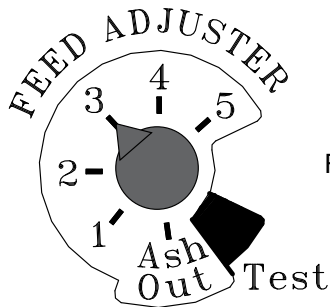
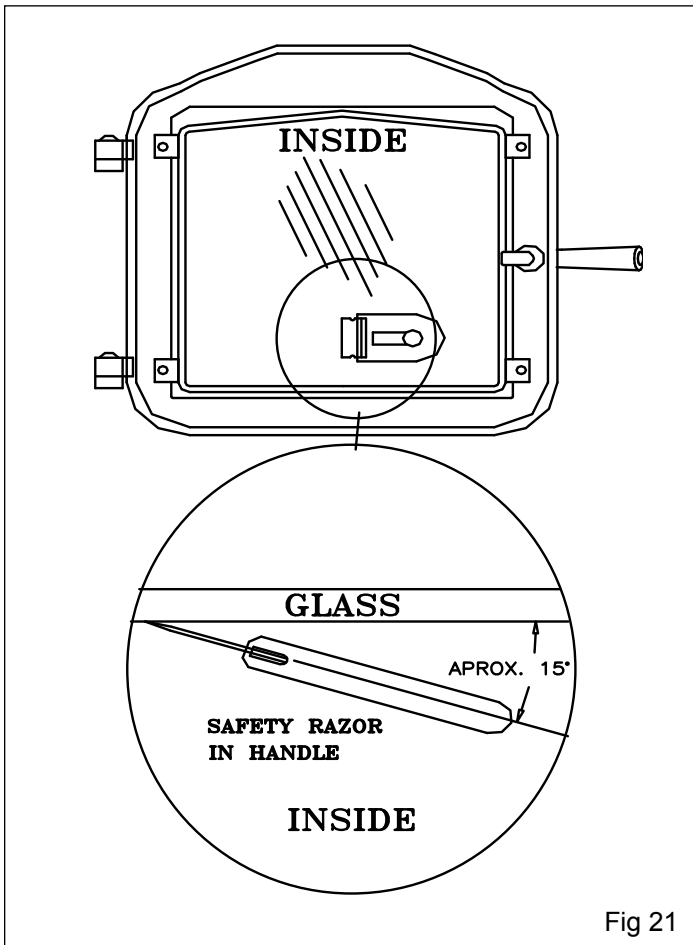

Fig. 14
Fig 21
4. Turn Feed Adjuster to the # 3 position, fig. 14.
Turn the temperature control to lowest setting and allow the stove to cool down. Have all cleaning supplies ready and close by. Take note at which # the Feed Adjuster is set, Fig 14. Turn Feed Adjuster knob to "Ash Out". (This is the ash removal setting.) This setting turns "off" the Combustion Blower and Feeder Motor but does not turn "off" the Draft Motor. Now the viewing door can be opened with minimal exhaust leakage. Use a safety razor in handle and scrape the inside of the glass with the blade almost flat to the surface, Fig 21. If further cleaning is necessary, the window can now be cleaned with liquid cleaner and a non synthetic cloth.
7. Clean the glass thoroughly, use a safety razor to scrape the sulfur buildup from the surface of glass. Then clean with standard window cleaning fluid, Fig.21.
3. Clean the glass as shown in fig.21.